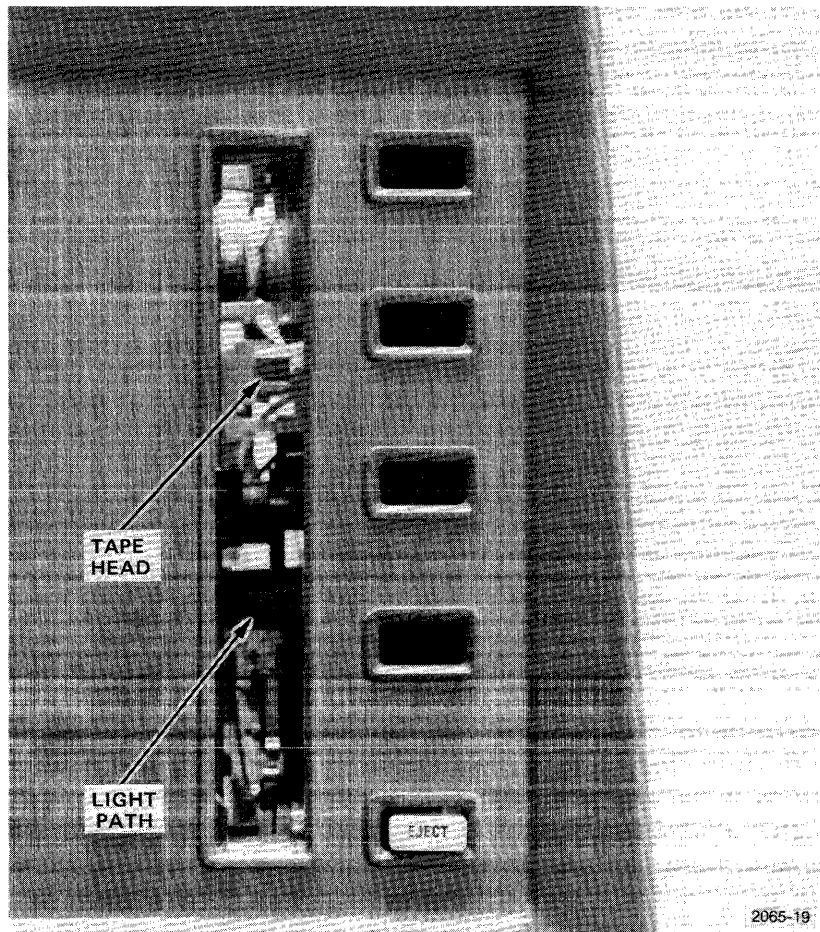

Fig. 3-1. Tape head and tape status light path.
The surface of the tape head (see Fig. 3-1) must be kept clean in order to accurately read and write data to and from the tape. Oxide from the tape, along with other foreign matter, may be deposited on the head during tape operation. This results in data errors and must be corrected as required by cleaning the head, using the following procedure.
8. Check the light path (refer back to Fig. 3-1) and remove any obstructions (lint, dust, etc.) in the light path. Install the tape cartridge and run a couple of tape exercises (such as REWIND, TLIST, etc.) to ensure that the tape problem does not recur. If the problem recurs and you have checked the light sensing assemblies and removed any obstructions, then the system probably has a circuit failure. Refer to the Circuit Description section of this manual.